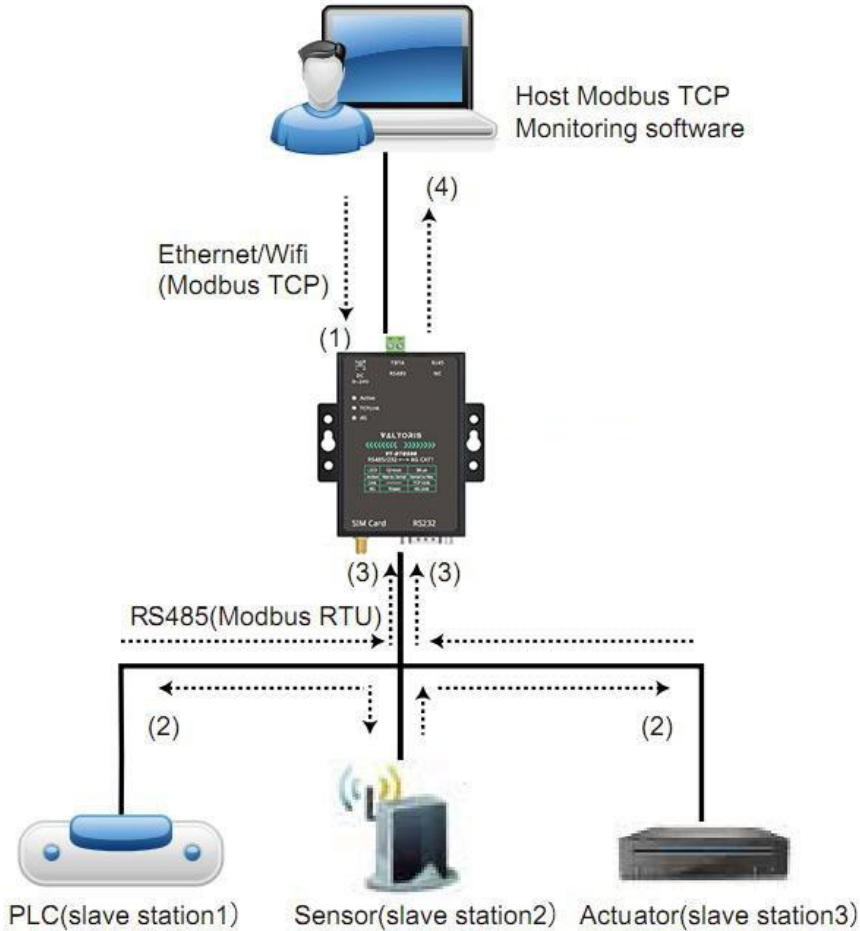

Figure 47 Storage Modbus Gateway
As shown in Figure 47: The direction of ordinary Modbus TCP data flow is (1) → (2) → (3) → (4). That is, the Modbus TCP command is first converted into the corresponding command of Modbus RTU, and then the device responds to the Modbus RTU command to the Modbus gateway, and then the Modbus gateway converts it into Modbus TCP again and sends it to the monitoring host computer.